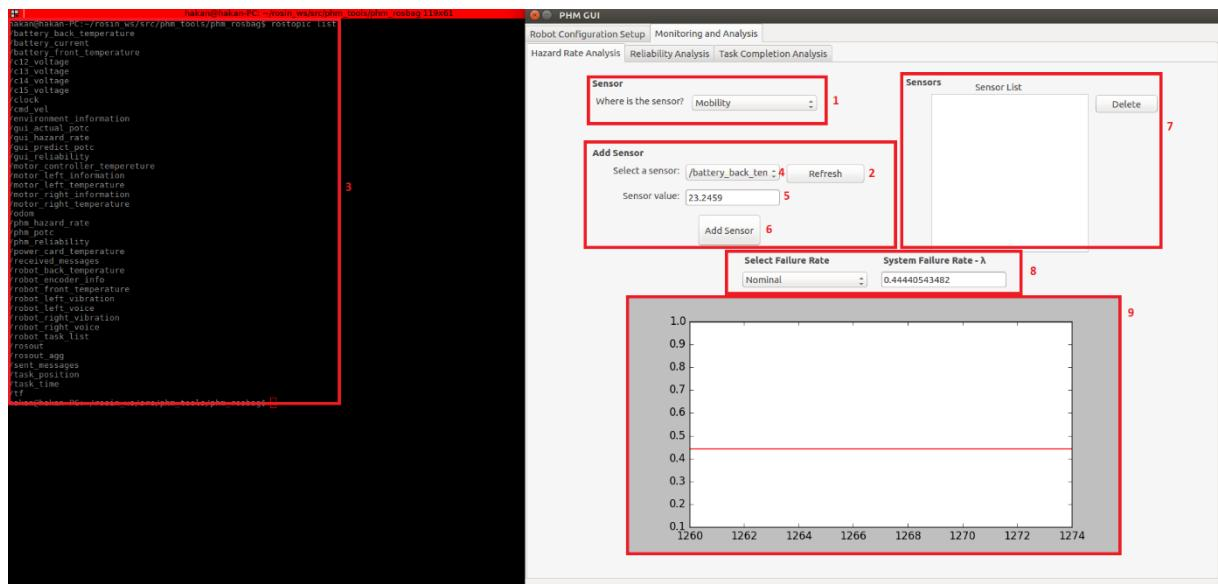
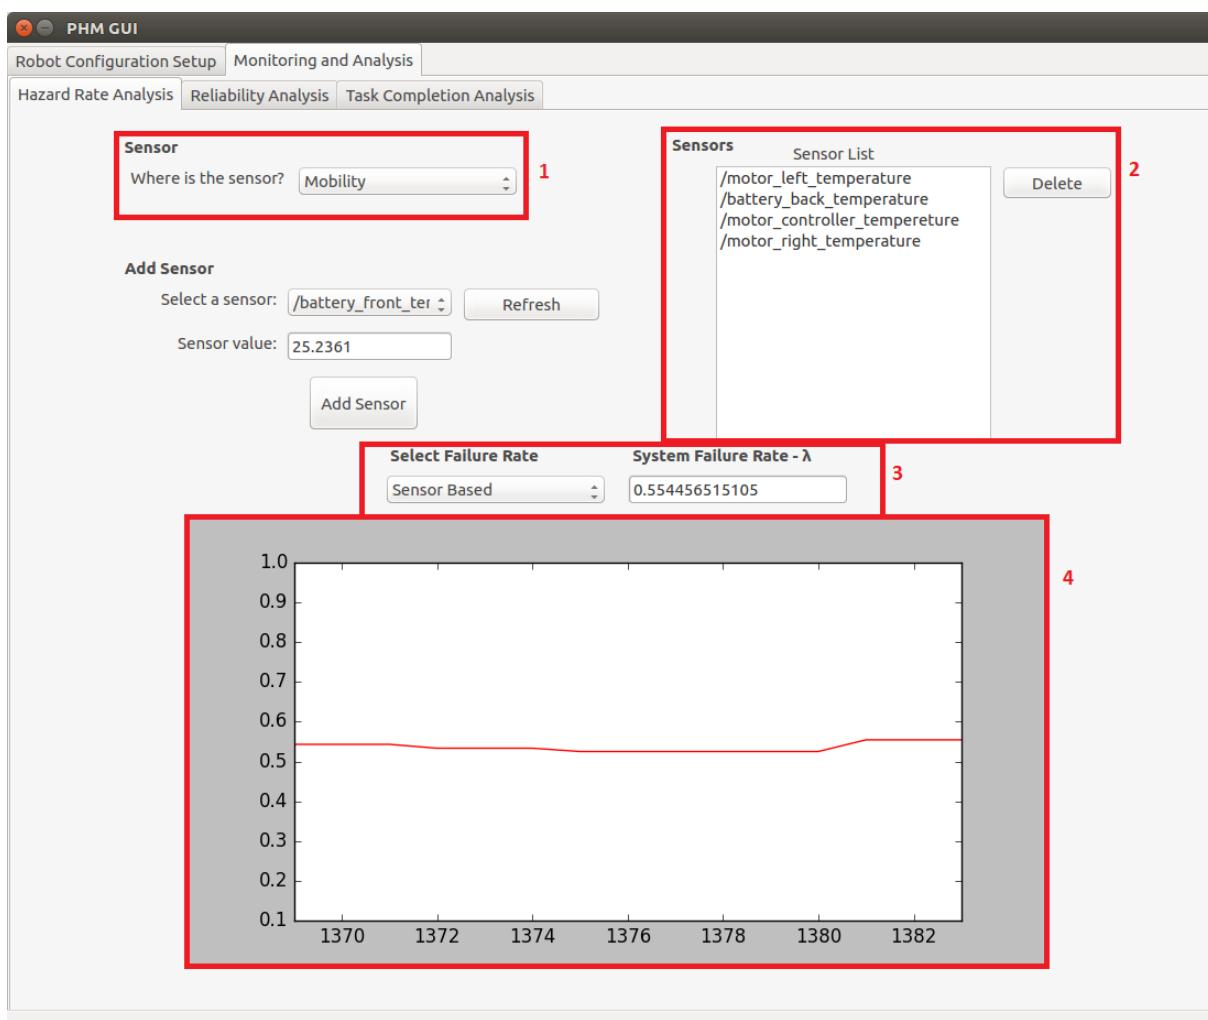

Figure 3.41 Hazard rate analysis and adding sensors to the selected module
Figure 3.42 Sensor based analysis
The process of adding sensors and showing the hazard rate values are shown in Figure 3.41 and Figure 3.42.
- In box 7, the sensors added to the module which is selected in box 1 are shown. As shown in Figure 3.42, the sensors in the selected module in box 1 are listed as in box 2.
- In box 8, the failure rate value of the system is selected as nominal or sensor based and its value is displayed. As shown in box 3 in Figure 3.42, the sensor-based value is displayed.
- In box 9, the nominal or sensor-based values selected in box 8 show as real time graphs according to time. As shown in Figure 3.42, the sensor-based values selected in box 3 are shown as real time graph according to time in box 4.